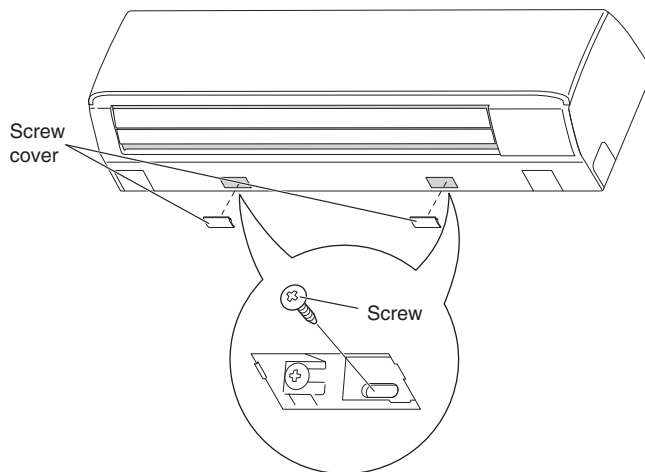

Fig. 1-87
- (1) Remove the screw cover on the bottom surface. (Fig. 1-87)
- (2) Fasten the frame to the rear panel using the 2 supplied tapping screws 4 × 10 mm. (Fig. 1-87)